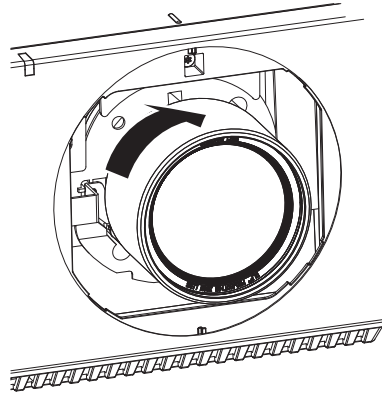

Fig. 2
- 2) Turn the projection lens clockwise until it clicks. (Fig. 2)